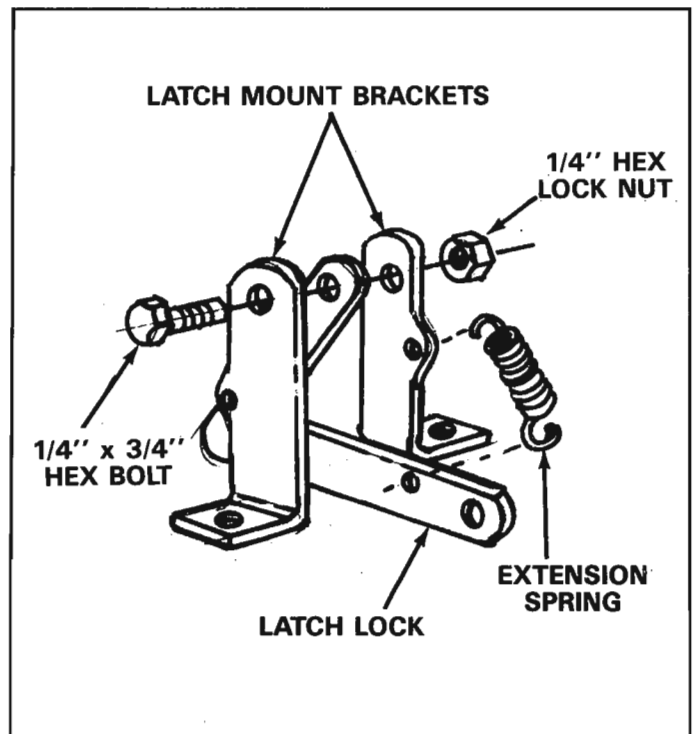

FIGURE 9
- Assemble two latch mount brackets, latch lock and extension spring using one 1/4" x 3/4" hex bolt and 1/4" hex lock nut. See figure 9. Do not tighten 1/4" lock nut, latch lock must pivot freely.